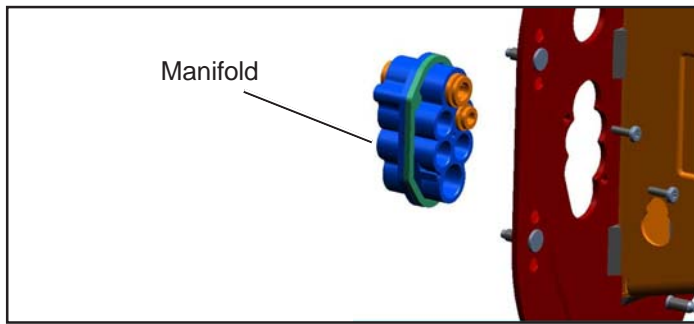

Figure 2 Manifold
3. Remove the 3/8 inch yellow air line from top port of the PTC Manifold. See Figure 2.
3. Remove the 3/8 inch yellow air line from top port of the PTC manifold. See Figure 2.
4. Remove the 1/2 inch orange air line from the trailer control (TC) port on the front of the TP-5™ tractor protection valve.
10. Remove and retain the 8mm nuts(2) that secure the ECU/TP-5™ valve bracket.